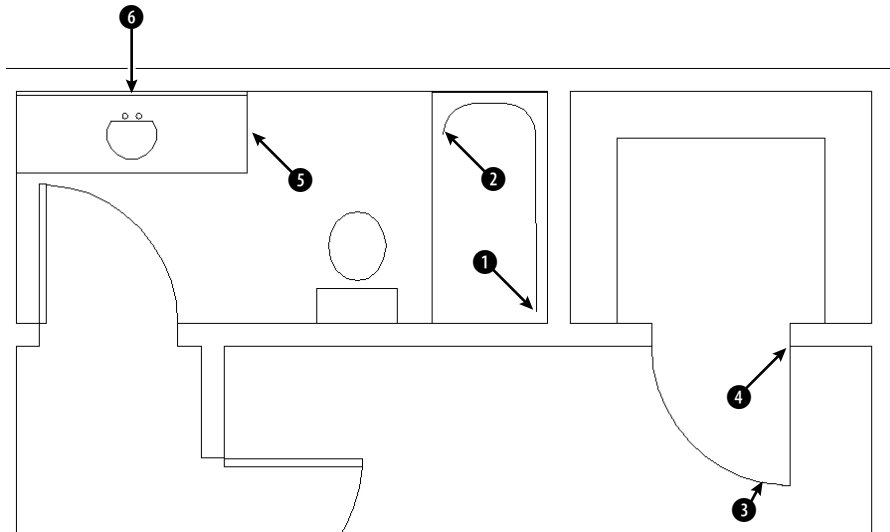

Figure 4-29: The tub, door, and sink to be completed in this plan layout.
3. Start the LINE command. At the Specify first point: prompt, pick the endpoint at ❶ in Figure 4-29. Be sure to pick on the endpoint itself, in order to acquire it.
4. At the Specify next point or [Undo]: prompt, pass the cursor over ❷. Move the cursor down a little, and you see the small plus sign showing that this endpoint has been acquired.
5. Move the cursor down until it is to the left of ❶ and vertical to ❷. When you see the tooltip (reading Endpoint: < 270°, Endpoint: < 180°) and the small x marking the intersection of the two points, click to end the line segment.
7. Start the LINE command again. At the Specify first point: prompt, pick the end-point of the arc at **3** in Figure 4-29. If you're not sure that you found the right endpoint, press Tab until the arc is highlighted. Make sure that you've acquired the endpoint by clicking the endpoint itself or passing the crosshairs over it.